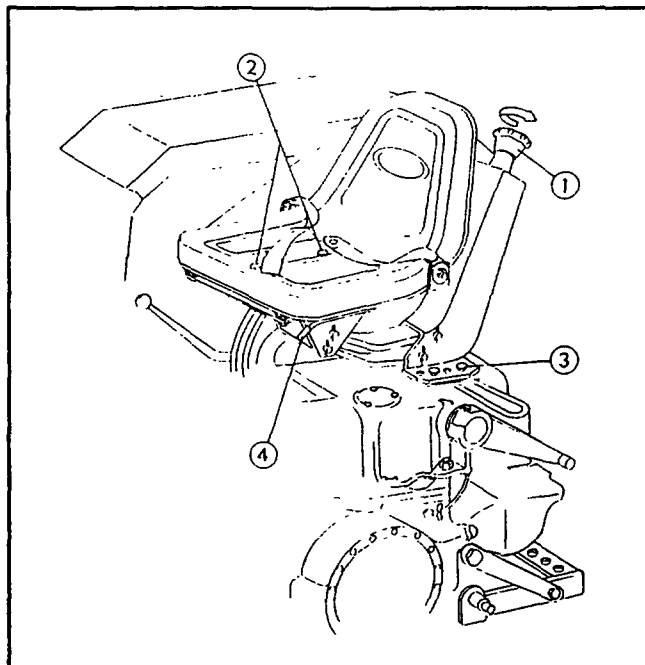

Fig. 30- Seat Adjustment 1. Adjusting Knob; 2. Cap Screws; 3. Mounting Holes; 4. Lock Lever;
1. The seat can be adjusted forward or backward by moving the lock lever (Fig. 30, item 4) toward the left-hand fender, position the seat where desired, then return the lock lever to its locked position.
2. The entire sliding mechanism can be moved forward or backward by removing two bolts (fig. 30, item 2) and repositioning the seat
3. The entire seat and suspension assembly can be moved forward or backward by removing four bolts (Fig. 30, item 3), and reposition the entire assembly. Two bolts must always be used on each side.
4. The spring tension of the seat suspension can be varied to give a harder or softer ride by turning the adjusting knob (Fig. 30, item 1).